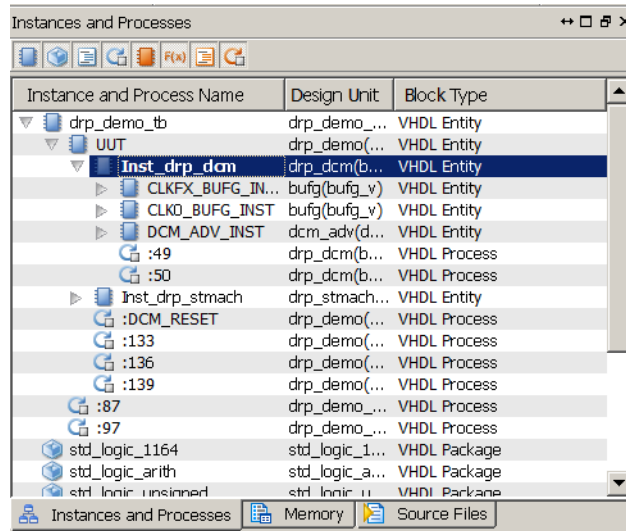

Figure 4-16: Instances and Process Panel
1. In the Instances and Processes panel, expand the hierarchy under drp_demo_tb as shown in Figure 4-16.